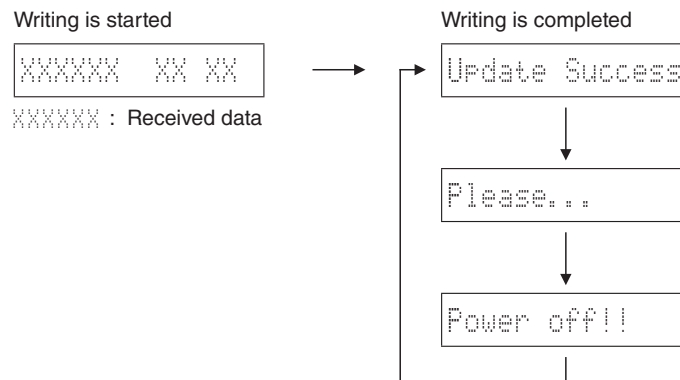

Fig. 6
2. Play the firmware CD on the CD/DVD/BD player. Writing of the firmware starts automatically. (Fig. 6)
3. When writing of the firmware is completed, "Update Success", "Please..." and "Power off!!" are displayed repeatedly. (Fig. 6)